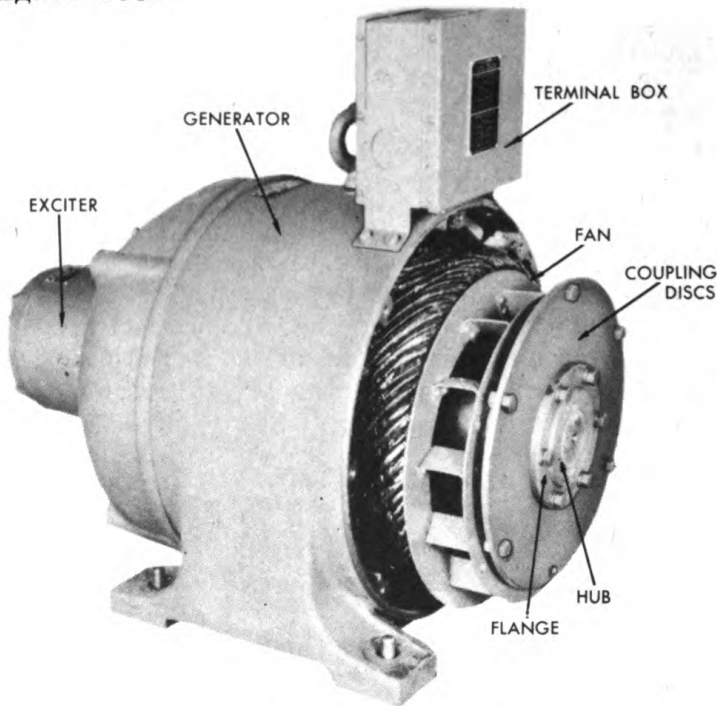

Figure 288. Main Generator and Exciter Showing Fan and Coupling,
138. Because the instructions include the detailed steps necessary for overhauling the generator and exciter, it should not be assumed that a complete tear-down is necessary. Only on rare occasions will it be necessary to tear down the generator as completely as the instructions here given imply. If, during operations, the instructions for inspection and cleaning are followed and the generator and exciter lubricated at the intervals recommended, a major overhaul will not be necessary. See Figure 288.
1. Disassemble the generator coupling and remove the ventilating fan, as follows: Mark coupling discs, hub, and flange to indicate their relative positions in order to reassemble them in their correct positions. See Figure 288.
2. Remove the six capscrews from the flange and remove the discs from the hub. **CAUTION:** Leave at least one bolt and nut in the outer rim of the coupling disc to prevent the discs from separating. See Figure 288.